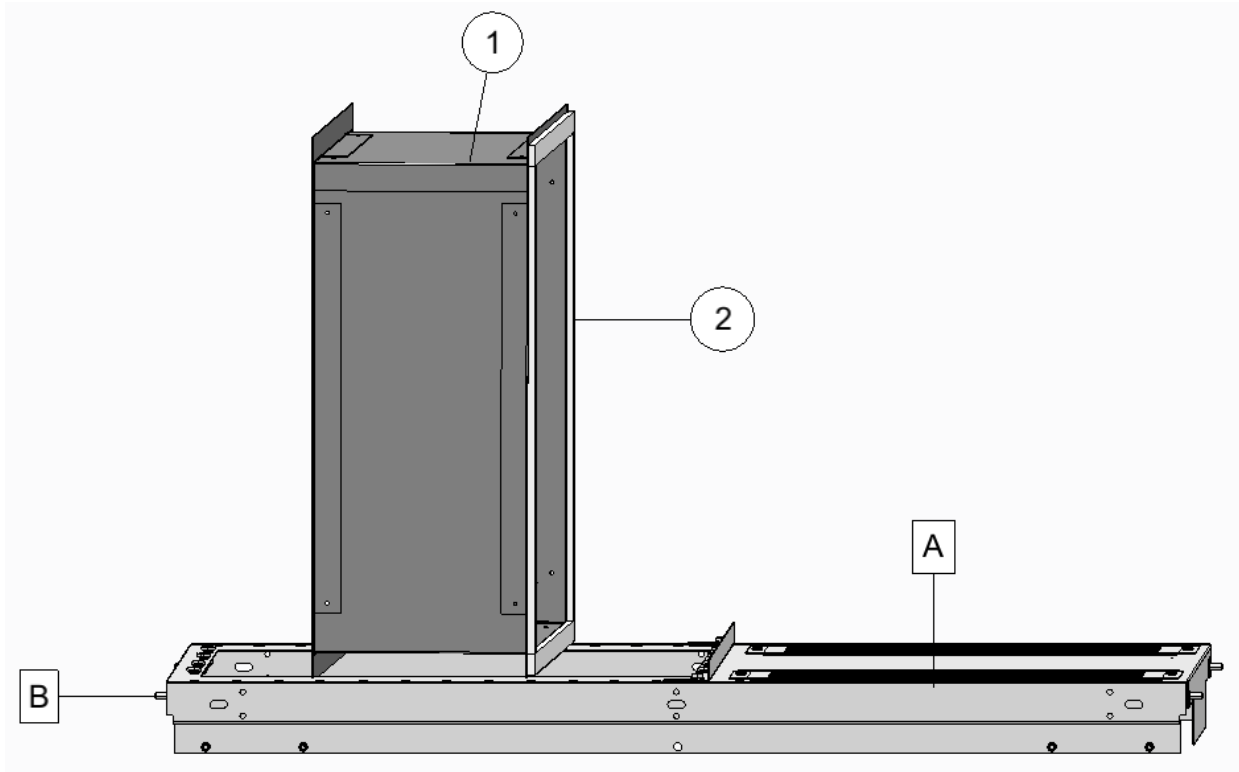

Figure 2: Lift and Place Telescopic Chimney Top on Roof of Enclosure
Using TWO people, one on each side, lift and place the Chimney Top (1) on the roof of the enclosure (A/B), as shown in Figure 2.